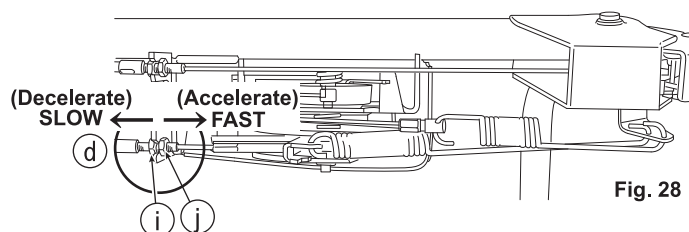

Fig. 28
1. When adjustment is necessary, loosen the lock nut (j) of the HST speed control cable (d), and then turn the adjuster (i) as shown in Fig. 28.
3. Start the engine and confirm that mowing speed changes when the gearshift lever (D) is operated.